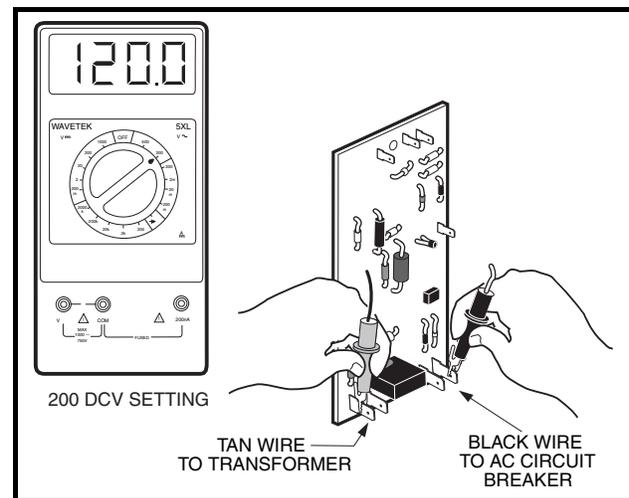

Figure 4-6 AC Circuit Test
3. Place black (–) probe of multimeter, set to 200 volts AC, onto terminal with black AC circuit breaker wire. Connect red (+) probe to terminal from which tan transformer wire was disconnected (**Figure 4-6, Page 4-10**).